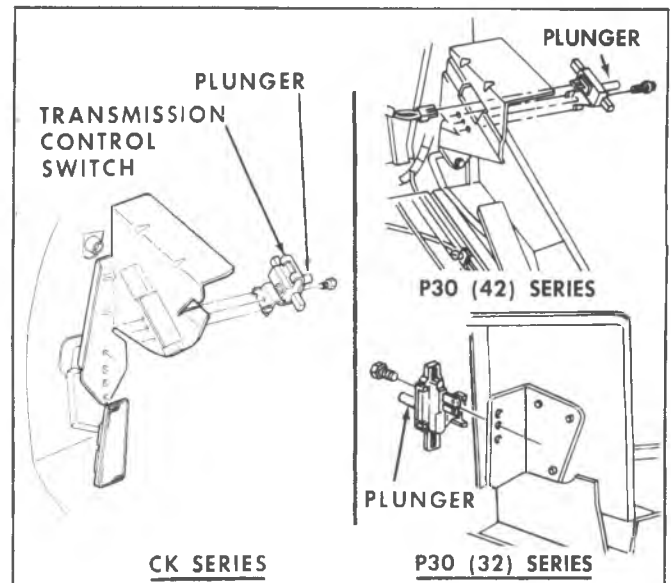

Fig. 7A-34-Detent Downshift Switch
1. Install switch as shown in Fig. 7A-34.